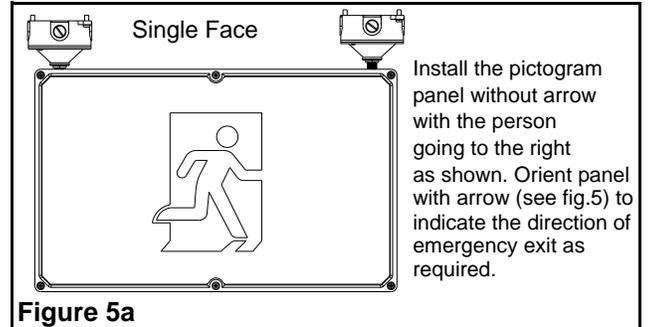
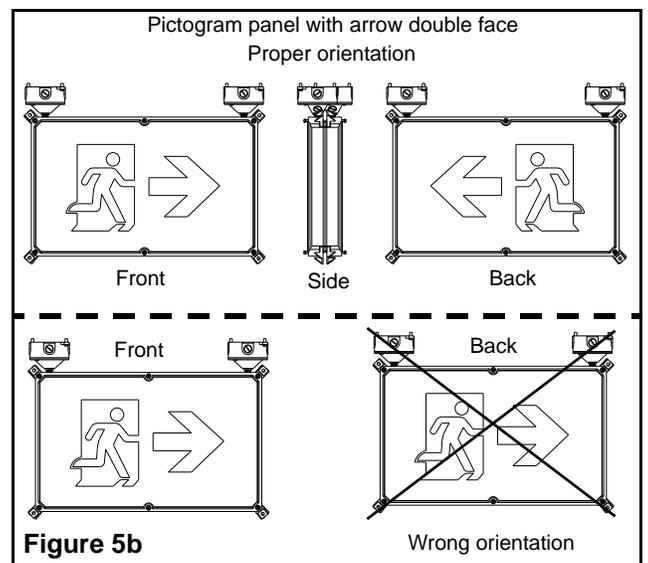

Figure 5a
Figure 5b
5. Install the housing(5) and canopy assembly {including the gasket (10)} to the junction box(9) using the junction box screws (not supplied).
6. Select the proper pictogram panel(3) (see fig. 5a and 5b). Place the opal diffuser(4) in first then place the pictogram panel on top of the opal diffuser while making sure to peel off the protective film.
Pictogram panel needs to be oriented as per fig.5a and 5b. For double face units, arrows need to be pointing in the opposite directions as shown in fig.5b. **Matte side of the pictogram panel must be facing the opal diffuser.**